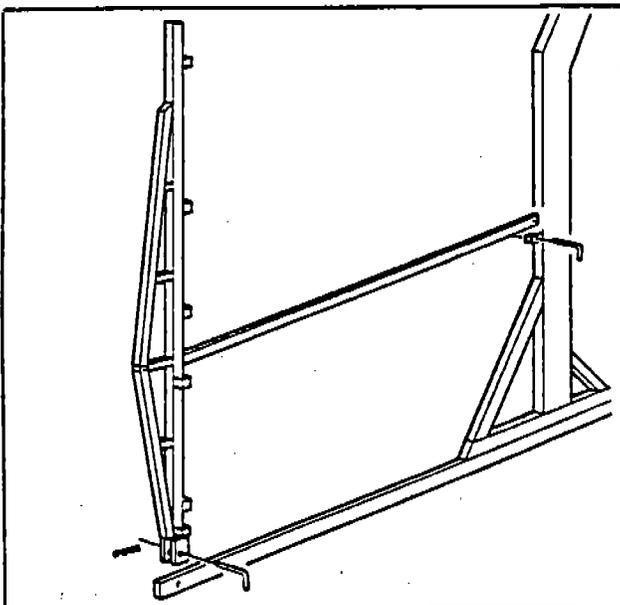

Fig. 32
- a) Matching the marks on the rail support and base rods (Fig. 32), assemble the supporting columns, securing them with pins and safety clips.
- a) Rispettando le sigle riportate su gamma supporto (Fig. 32), montare i supporti e fissarli con spine e copiglie.